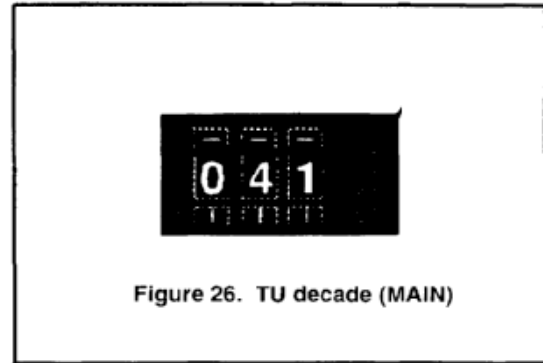

Figure 26. TU decade (MAIN)
8. Set the TU decade (D-1) on tester to read "041" if calibrating a MAIN TANK, and to "011" if calibrating an AUX TANK (Figures 26 and 27).